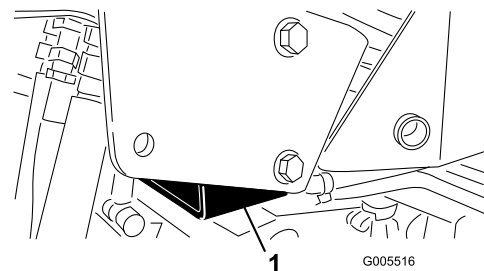

Figure 35
- Right side-under the jack pad and adjacent to the ROPS support bracket (Figure 35)